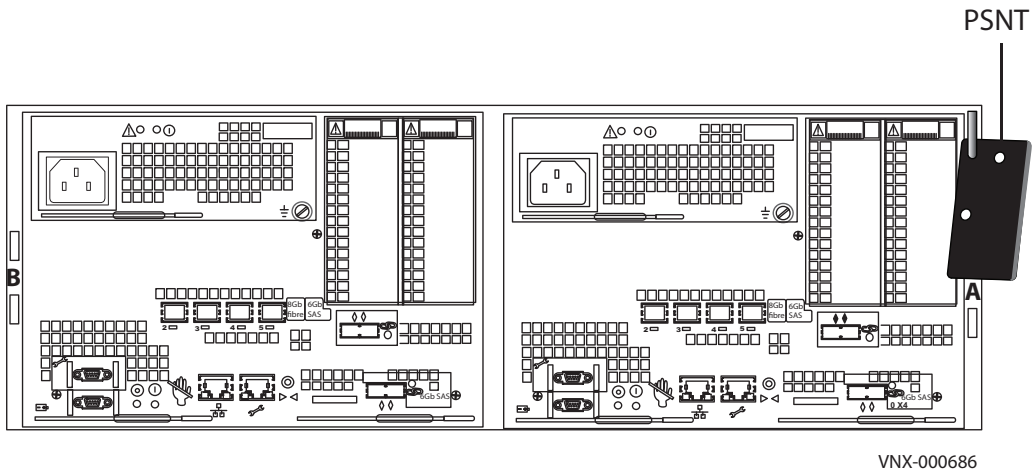

Figure 9 The location of the PSNT tag on the rear of the 3U DPE
1. Look for the Product ID/SN on the product serial number tag (PSNT) located at the back of the DPE as shown in Figure 9.
Be careful when you slide the enclosure into the rails. The PSNT tag on the corner of the enclosure as shown in Figure 9 can inadvertently become jammed, cut off, or block the enclosure seating.